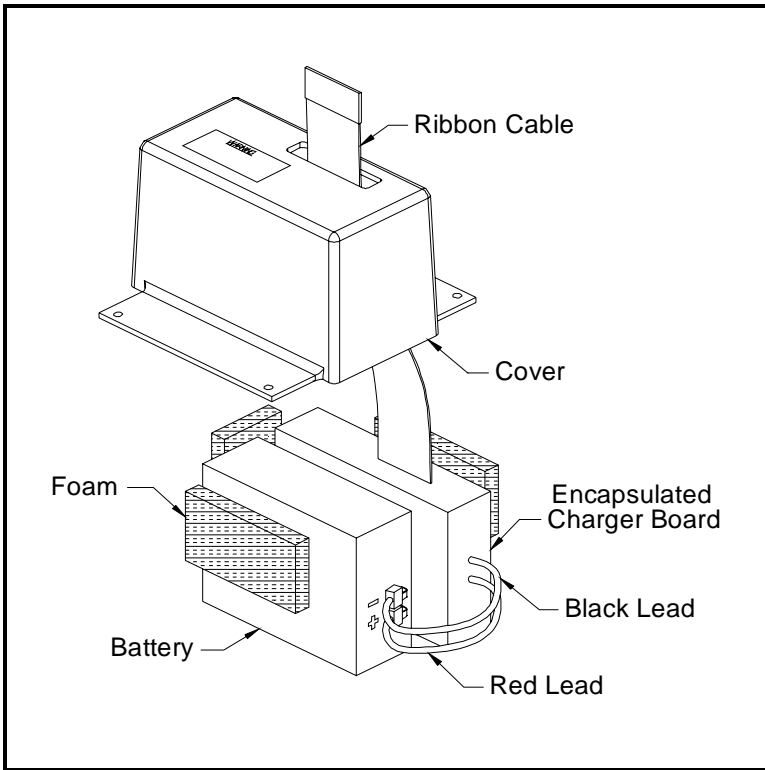
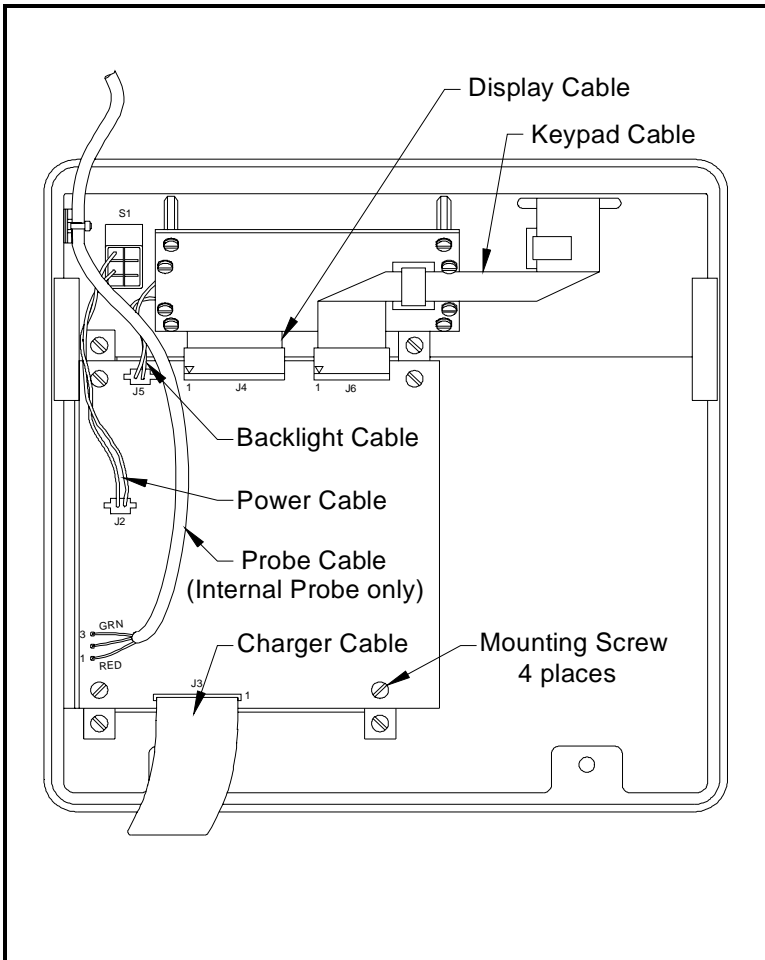

Figure 4-1: Battery Pack with Charger Board
Figure 4-2: Rear of PC Board - Cable Connections
Refer to Figure 4-1 on page 4-11 and complete the following steps to remove the old battery:
2. Disconnect the ribbon cable that connects the encapsulated charger board to connector J3 on the back of the main printed circuit board, which is mounted in the cover of the Series 35 IS. Refer to Figure 4-1 on page 4-11 and Figure 4-2 on page 4-15.
Refer to Figure 4-1 on page 4-11 and Figure 4-2 on page 4-15 and use the following steps to install the new battery:
See Figure 4-2 on page 4-15 to locate the cable connections on the back (non-component side) of the main printed circuit board.
IMPORTANT: *Before disconnecting the ribbon cables, mark the side of each cable that is near pin 1 of its circuit board connector. Pin 1 is clearly labeled on the circuit board for J3, J4 and J6. See Figure 4-2 (above).*